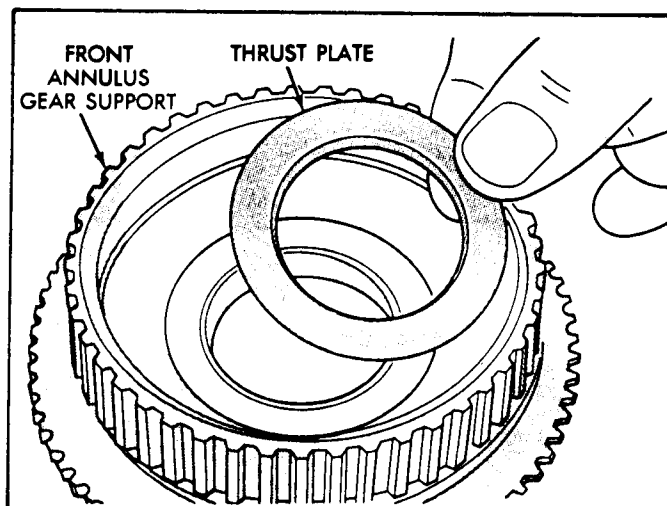

Figure 83
18. Position the thrust plate on the front ring gear, as shown in Figure 83, and retain with Trans-Jel.